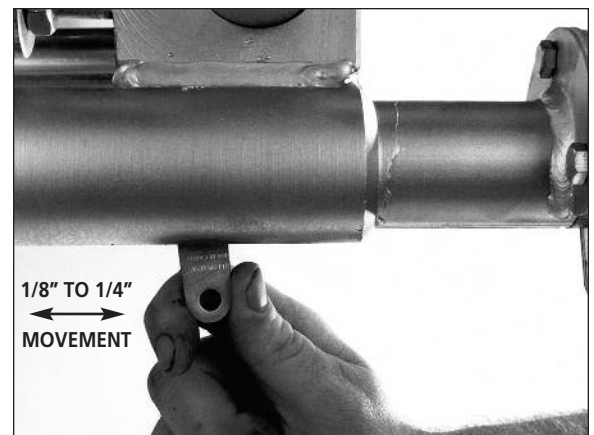

Figure 14
- Check the chain tension as in **Figure 14**. If tension is insufficient, take-up
- b) Check chain tension. See **Figure 14**.